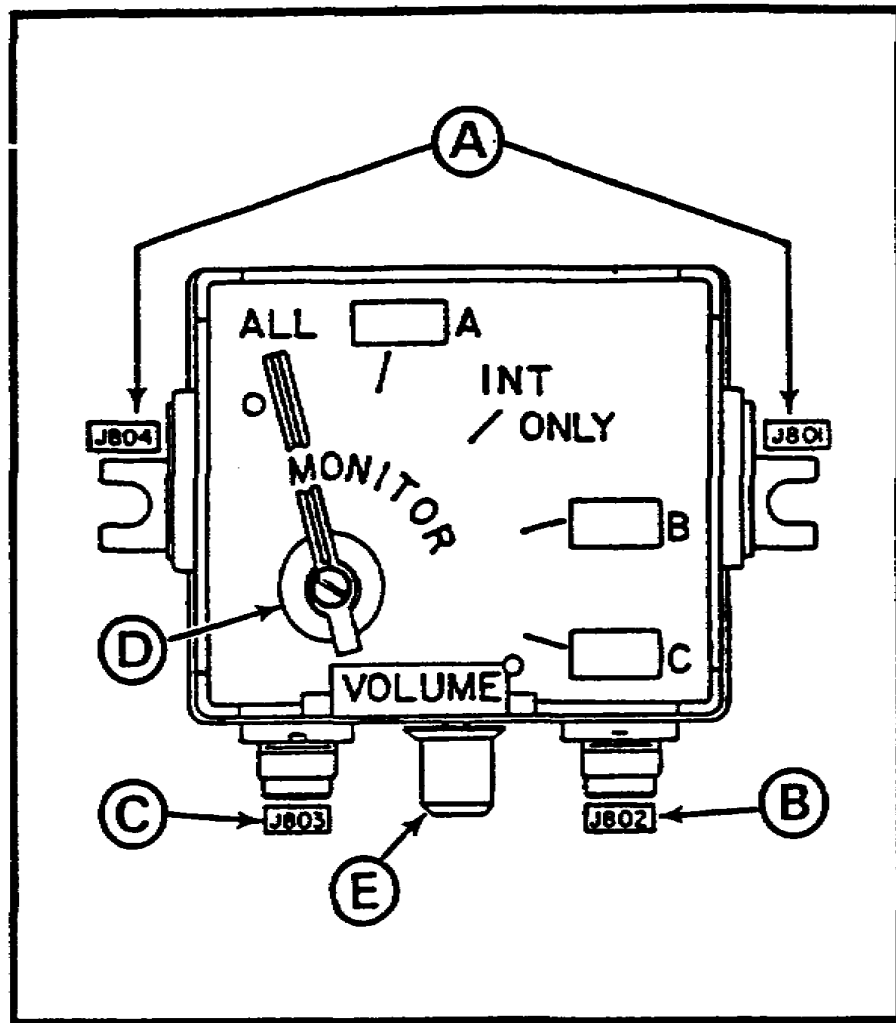

Figure 10. C-2298/VRC jacks and control locations.
n. See Figure 10, C-2298/VRC jacks and controls. Jacks J801 and J804 (A) provide a connecting point for interconnecting cable CX-4723, which provides operating voltage and a signal path to the C-2298/VRC. Jacks J801 and J804 are wired in parallel, and another control box can be connected in tandem. Jack J802 (RAD)(B) provides for a connection of an audio accessory. Jack J802 is used to key, talk, and listen on either the intercom or radio, depending on the setting of the MONITOR switch. Jack J803 (INT) (C), marked with a yellow band, provides a connection for an audio accessory. When jack J803 is used, key, talk, and listen only for the intercom is available in all positions of the MONITOR switch except C. The MONITOR switch (D) provides the selection of the different radios and the intercom. The VOLUME-control (E) adjusts the level of the audio signal being applied to the audio accessory jacks.